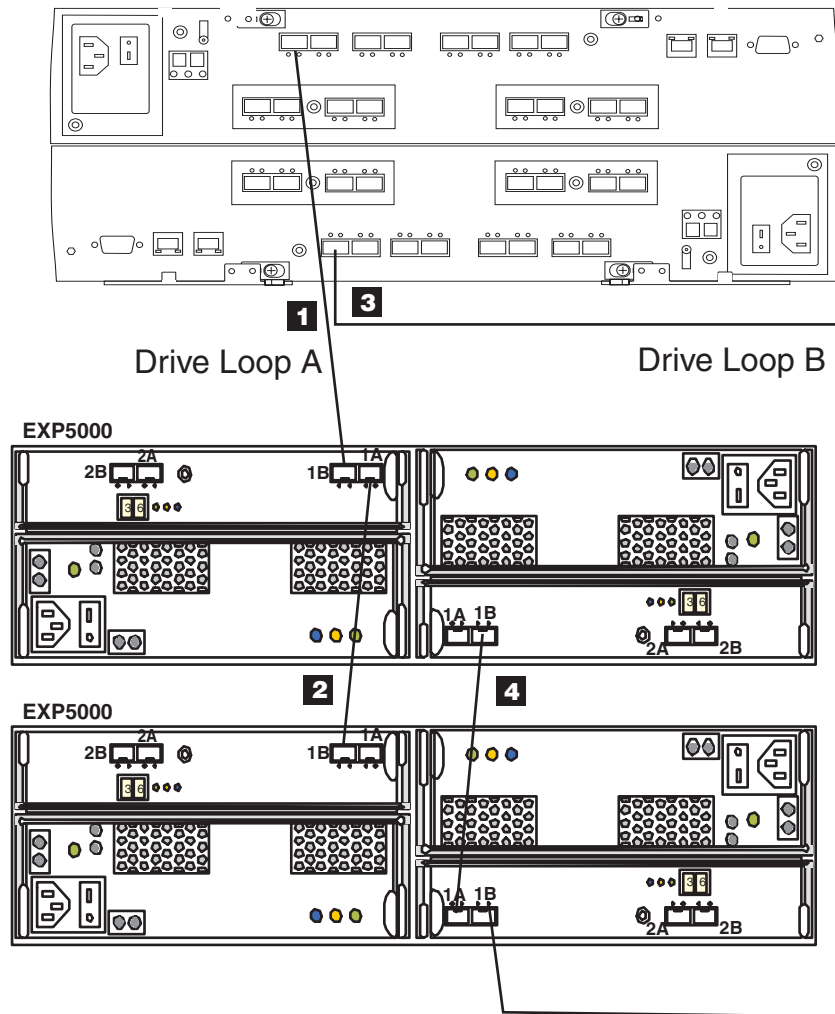

Figure 27. Correct EXP5000 redundant drive loop configuration
- The controller drive ports of the DS5000 storage subsystem controllers must always be connected to the ports labeled 1B in both right and left ESMs of the EXP5000s in the redundant drive channel/loop pair that is connected to the DS5000 storage subsystem. (Figure 27 on page 45 shows the location of the ports.)
Figure 27 on page 45 shows a redundant drive loop that you might create with a DS5000 storage subsystem and two EXP5000s. The numbers provided in Figure 27 on page 45 show the order in which cables should be attached. Note that the controller port is connected to the port labeled 1B on both the right and left ESMs.
To create drive loop A (of the DS5000 redundant drive loop) shown in Figure 27, you would perform the following steps:
To create drive loop B (of the DS5000 redundant drive loop) shown in Figure 27, you would perform the following steps: